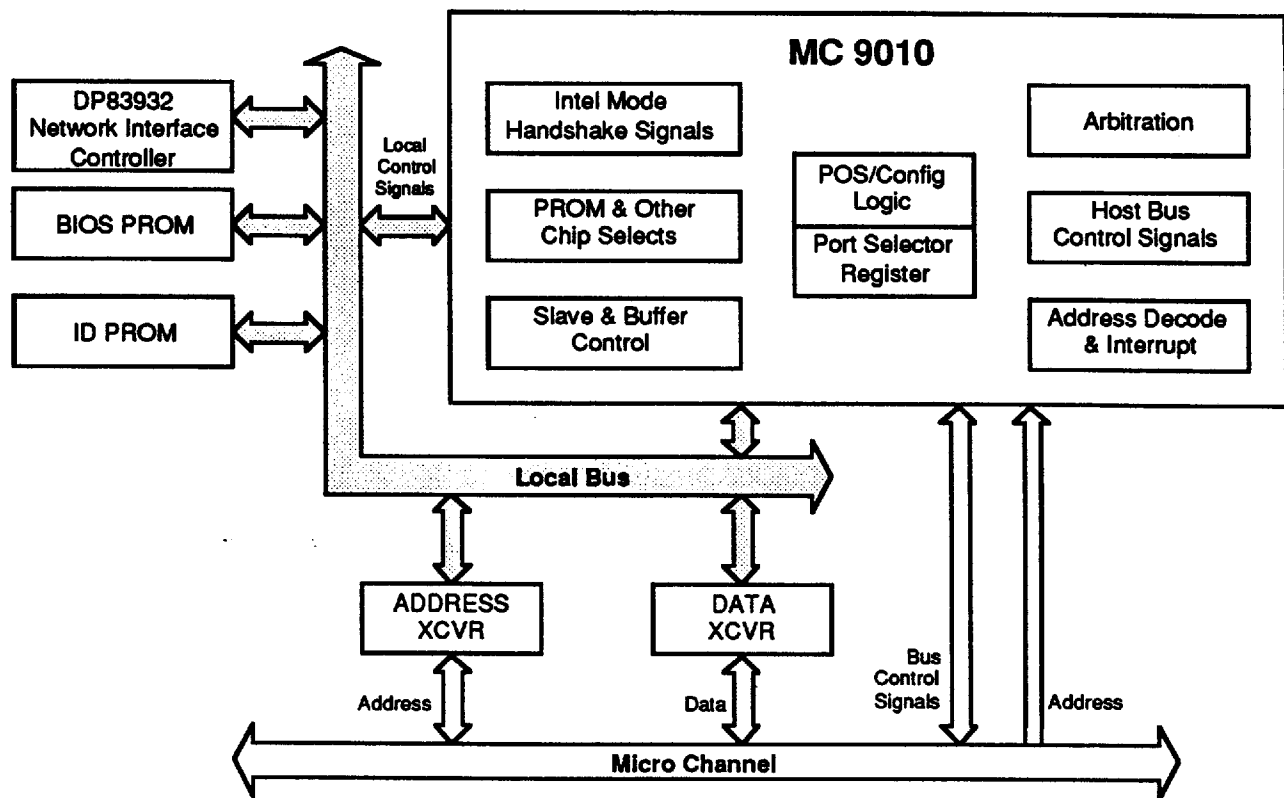
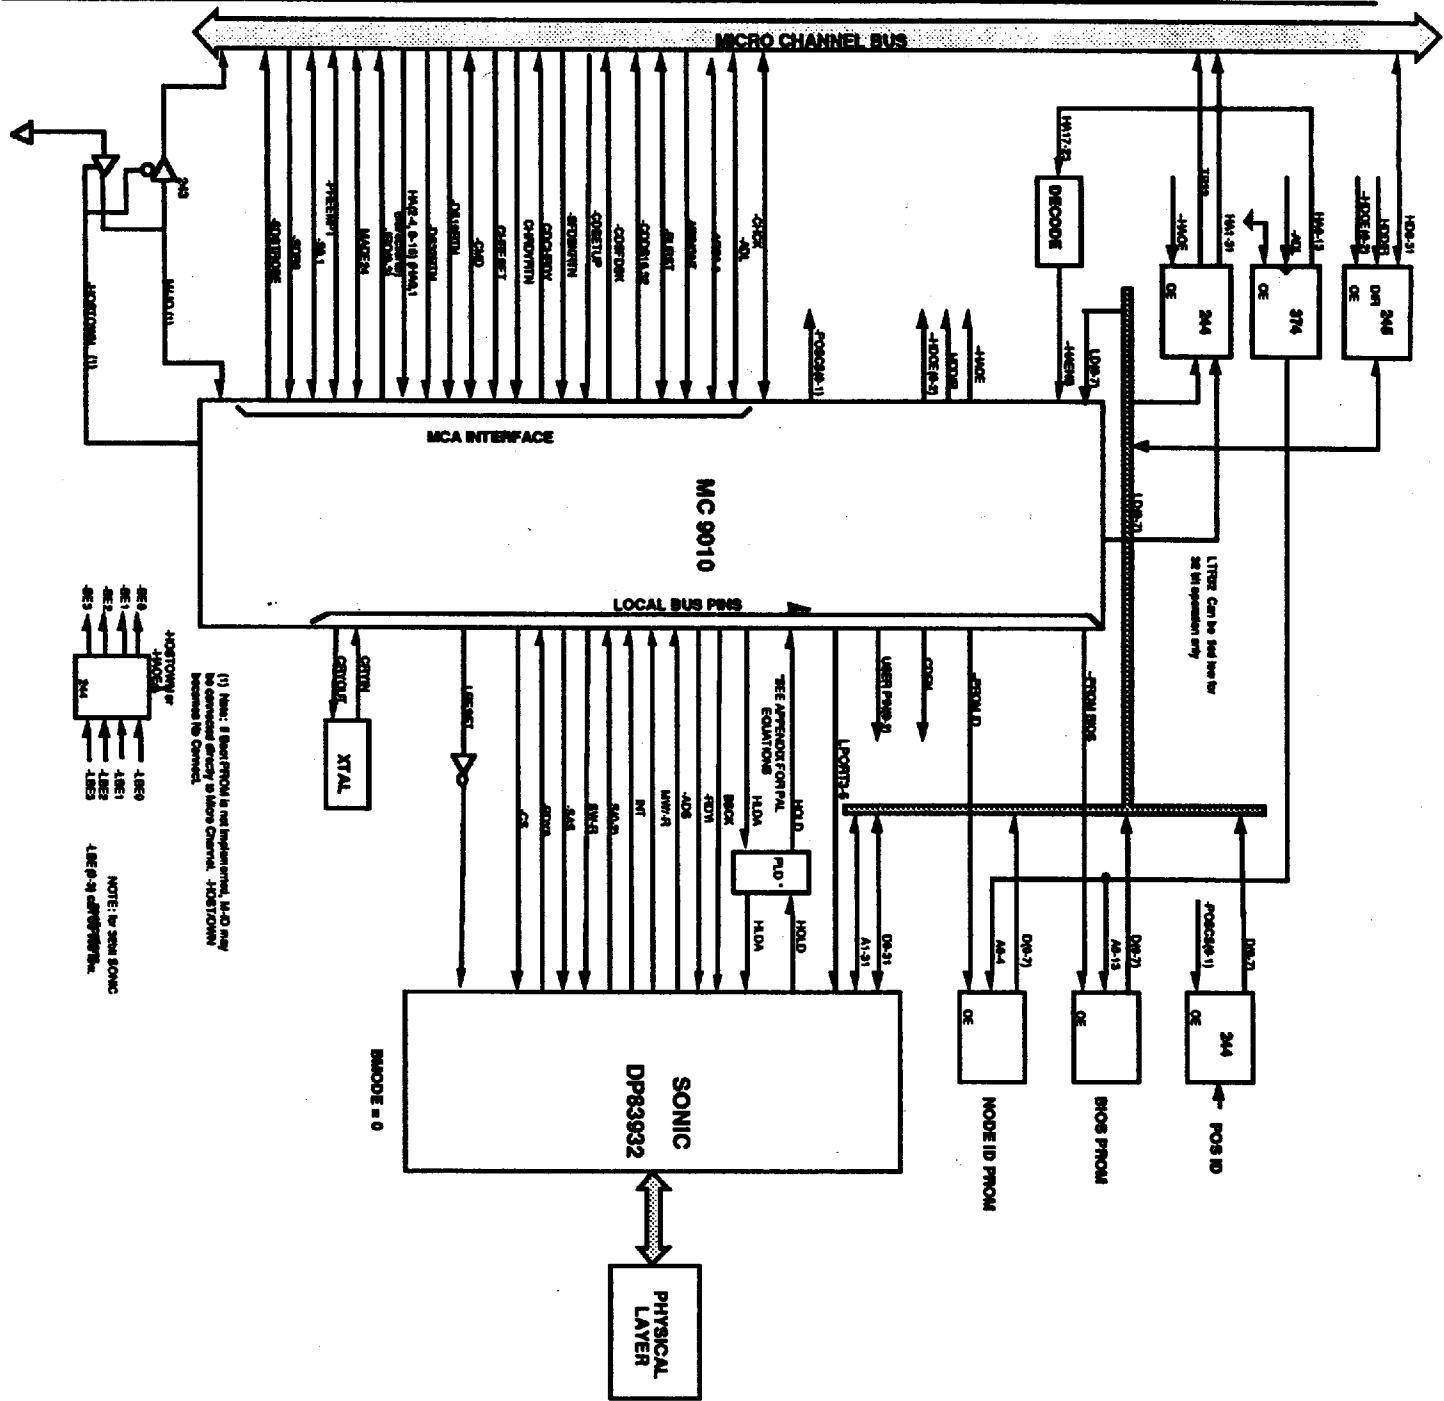
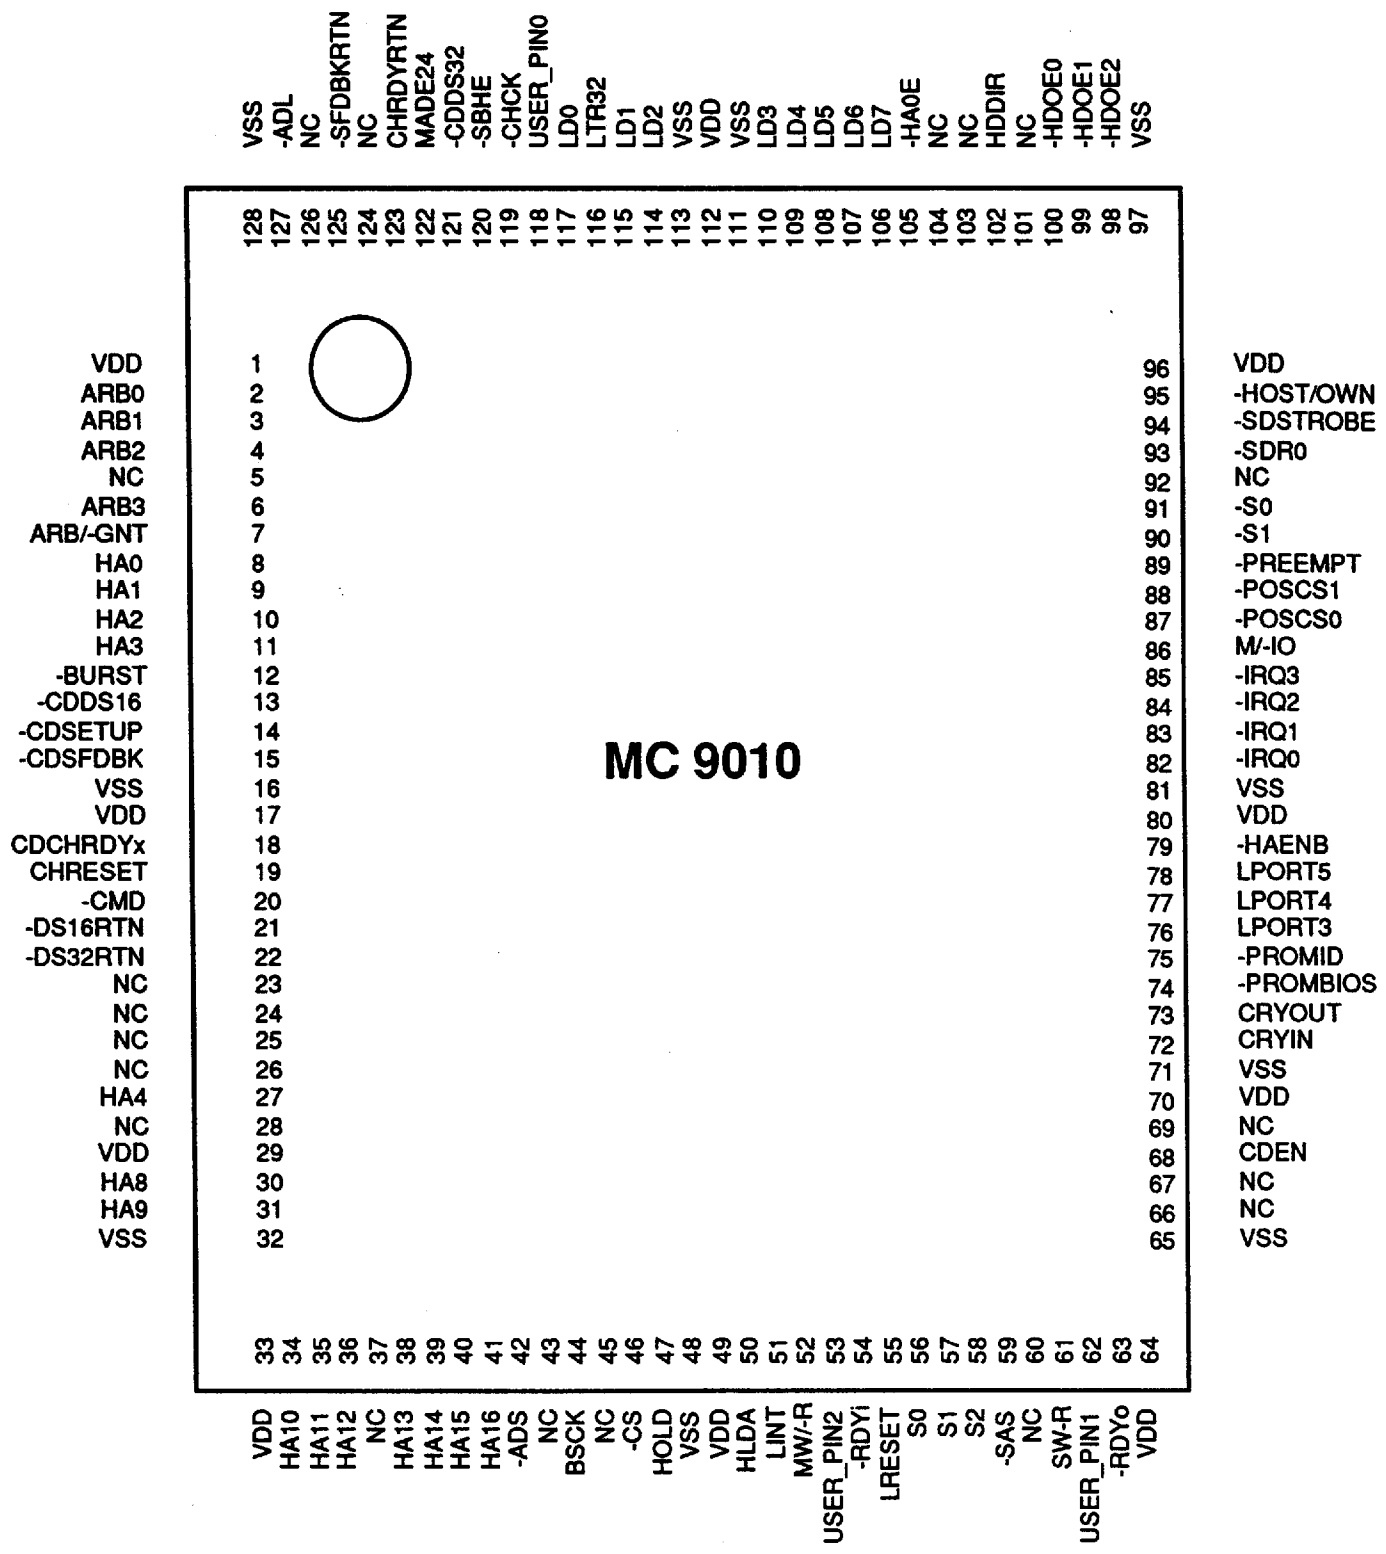

FIGURE 2. MC 9010 Functional Block Diagram
Figure 3
Figure 4 Pin Out
Section 1	Introduction <ul style="list-style-type: none"> <li>• Revision History</li> <li>• General Description</li> <li>• Chip Block Diagram (Fig. 2)</li> <li>• Typical Adapter Diagram (Fig. 3)</li> <li>• Pin Out Diagram (Fig. 4)</li> </ul>
2. In figure 3, -HDOE2 is connected direct to the buffer input. It is not nanded with HLDA.